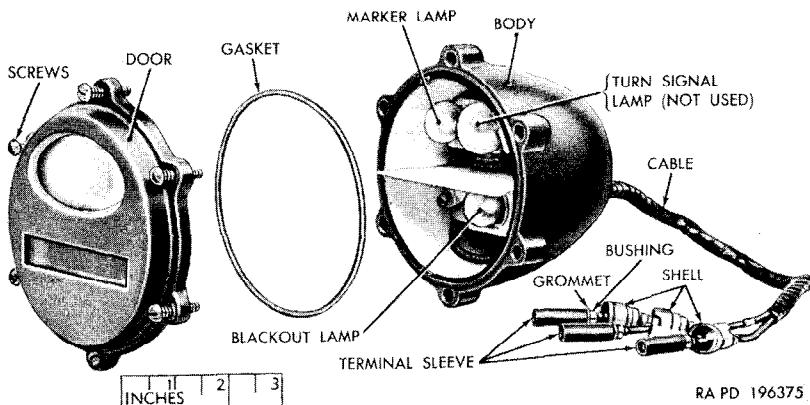

Figure 142. Blackout marker light—exploded view.
- (2) Remove the two cable connectors from the clips inside the body. Disconnect the cable connectors and cable (*a*(4) above).
- (3) Remove the three lamp-unit retaining springs and remove the lamp-unit from the door.
- (4) Install the new lamp-unit in the door and install the three lamp-unit retaining springs.
- (5) Connect the two lamp-unit cables to the cables in the headlight body (*a*(5) above). Engage the cable connectors in the clips.
- (6) Position the door and lamp-unit on the body and tighten the three attaching screws.
c. Replace Lamps in Blackout Marker Lights or Taillights (fig. 13). The same type double tungsten filament lamps are used for the blackout marker lights (fig. 139) and the taillights. The stop light lamps are a single tungsten filament. To replace any of the lamps, unscrew the six screws that secure the door to the body (fig. 142). Remove the door and the door gasket. Remove the lamp to be replaced and install a new lamp of the same type. Install the gasket, replacing it with a new one if necessary, and install the door (fig. 142).